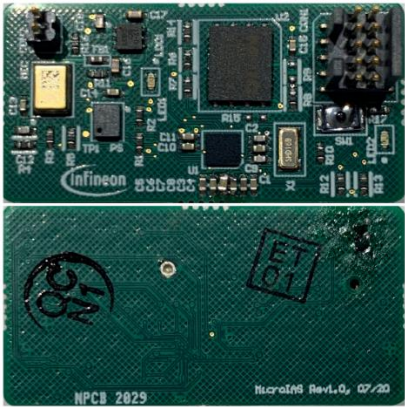

Figure 1 MicroIAS form-factor board – top/bottom view
Infineon’s MicroIAS is a small form-factor board (Figure 1) designed for the use as sensor fusion based alarm system. It employs a high accuracy pressure sensor (PS), a microphone (MIC) with high SNR and a powerful small form-factor ARM M4F core microcontroller from Quicklogic that processes sensor data from the microphone (listens to glass break) and the pressure sensor (picks up changes in barometric pressure after a glass break happens) and runs sensor fusion algorithms to trigger an alarm.